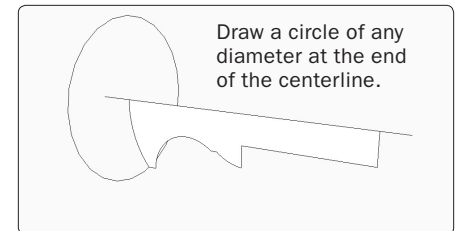

Figure 74. Make a path for the Follow Me Tool to turn the knob.
Step 60 Use the Line Tool to extend one edge of the profile, as shown in Figure 74. These lines help you locate the centerline of the component after it is turned so that you can put it in place on the drawer front. Use the Circle Tool to create the path for the Follow Me Tool, as shown in Figure 74.